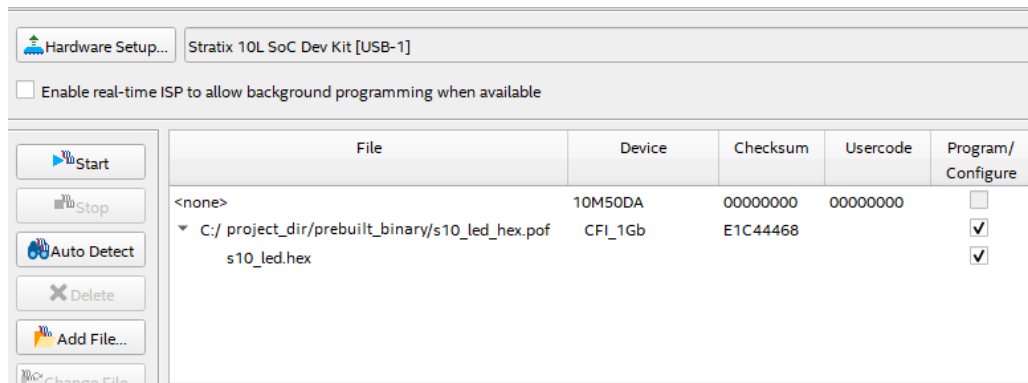

Figure 4: Programming CFI Flash with Stratix 10 Design Bitstream
- d. Click Start. See Figure 4 for the Programmer setup.